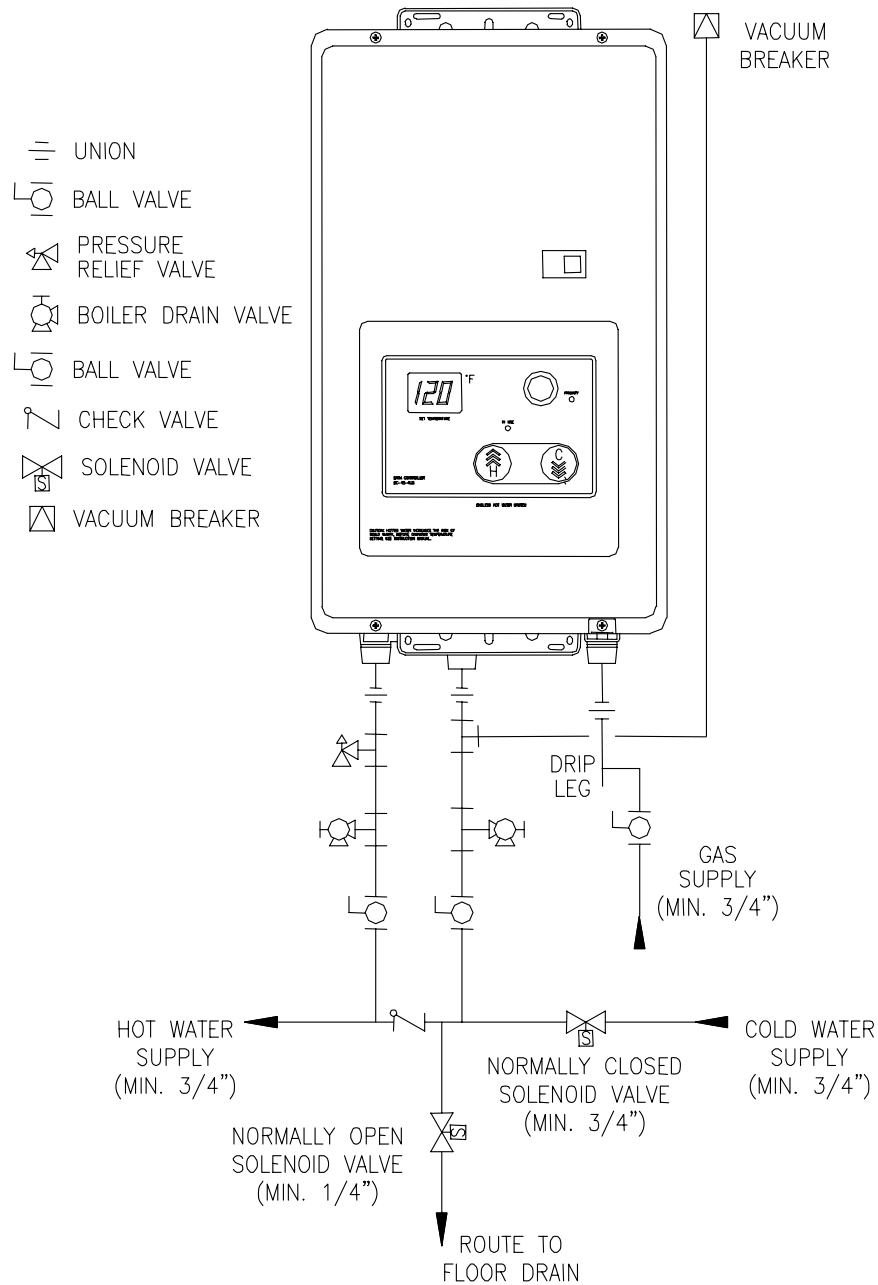

Figure 4
4. In cold climates where piping can freeze during an extended power failure, drain solenoid valves should be installed on the cold and hot water supply lines to allow water to drain from the water heater when power is interrupted. Refer to the piping diagram (fig. 4) "Recommended Piping for Power Failure Freeze Protection" in Section V and contact your dealer if assistance is needed.